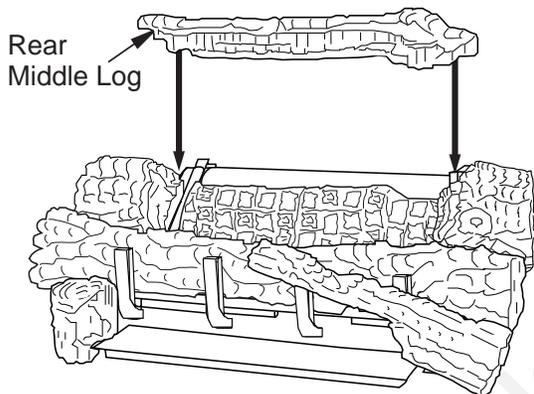

Figure 32 - Installing Rear Middle Log
8. The rear middle log (18" D-068, 24" & 30" D-042) should fit between the ramp log and the rear burner. The left and right middle logs have recessed areas for the rear middle log to sit into (See **Figure 32**). There may be a small gap between the rear middle log and the ramp log, this is normal.. Be careful not to push the rear burner out of position while installing this log.